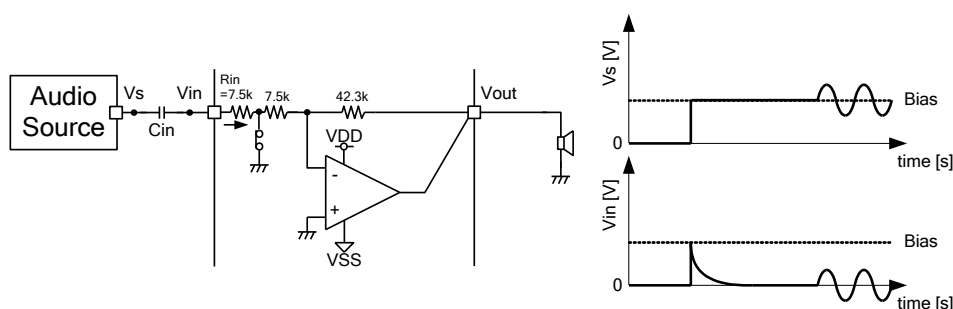

Figure 31. Fluctuation of input terminal voltage when charging input coupling capacitor
① The term from "PVDD, SVDD : ON" to "shutdown ON->OFF"
When power supply (PVDD, SVDD) is applied, it is started that charging input coupling capacitors. Therefore, the input terminal voltage "Vin" is changed as following Figure 31. Time constant " τ " of charging input coupling capacitor is decided by input coupling capacitor C_{in} and Internal input impedance R_{in} (See formula (1)). Internal impedance R_{in} in term of shutdown is $7.5k\Omega$ (typ) for making time constant τ shorten. If "SDB" is changed "L" to "H" (shutdown ON -> OFF) during input DC voltage (V_{in}) is changing, pop noise may occur. It is recommended that shutdown ON -> OFF ("SDB" : L -> H) after $5\tau \sim 6\tau$.